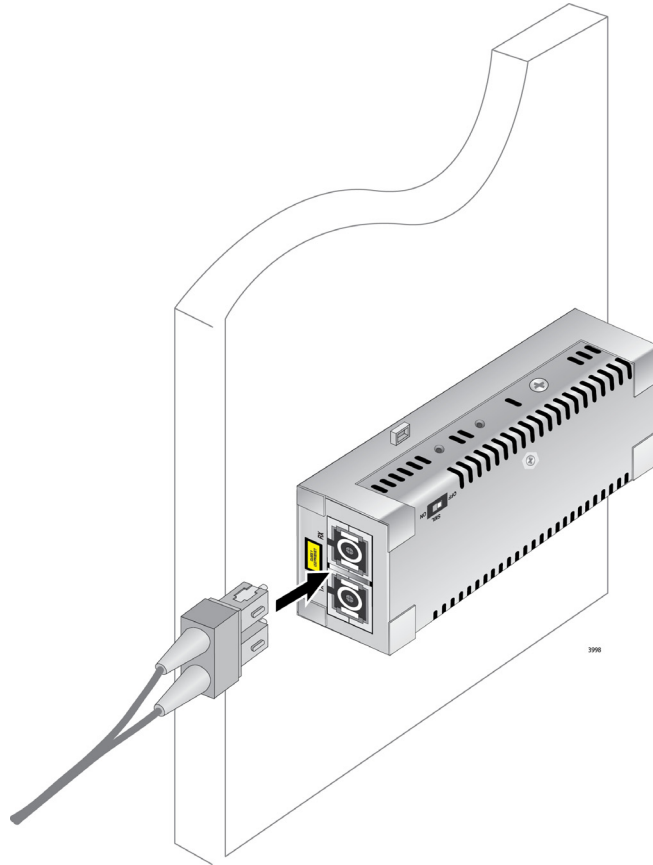

Figure 24. Connecting Cable to Fiber Optic Port
4. Remove the dust cover from the fiber-optic connector(s) and connect the cable to the fiber-optic port as shown in Figure 24 on page 46.